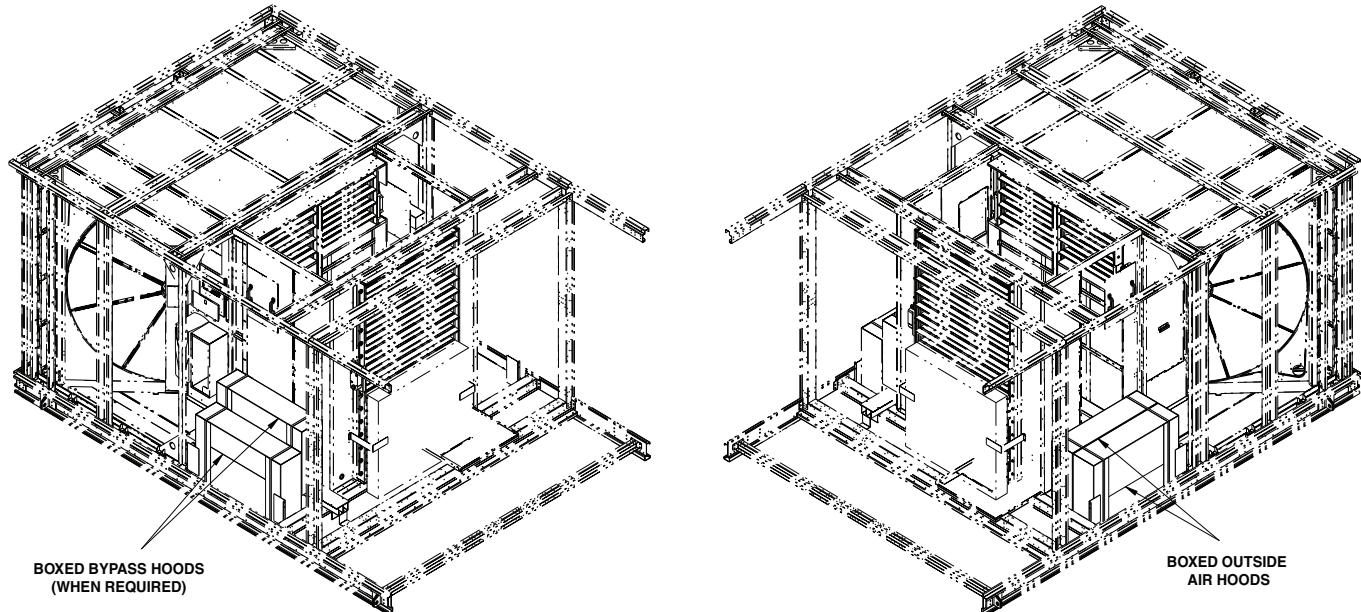

Fig. 29 — Boxed Packaging: Bypass Hoods (Left); Outside Air Hoods (Right)
1. Remove boxes from unit. See Fig. 29 for location.
1. Remove boxes from unit. See Fig. 29.